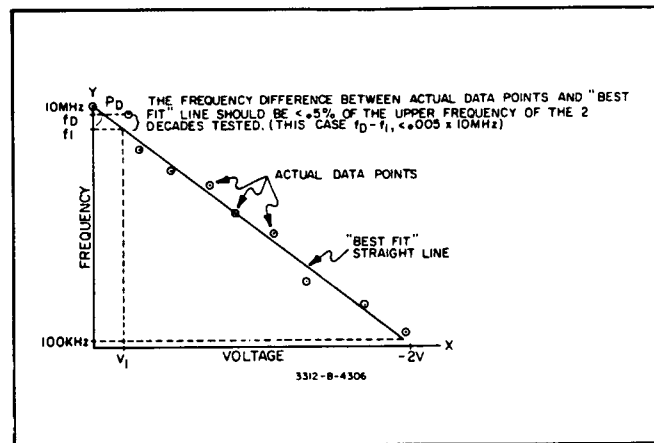

Figure 5-12. VCO Linearity Graph.
f. The following formulae define the "best fit" straight line for a given set of points. Using these formulae, a straight line will be obtained which represents the VCO frequency vs voltage characteristics. VCO linearity specifications will be met if for each VCO input voltage the frequency actually produced varies from the value indicated by the "best fit" line by less than 5.8% of the upper frequency of the two decades tested. (See Figure 5-12.)